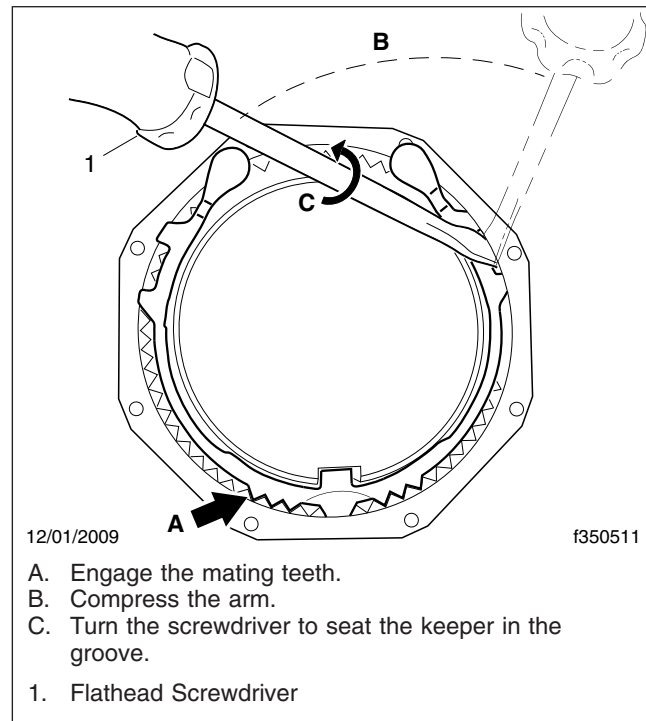

Fig. 4, Installing the Keeper
- 3.3 Use a flathead screwdriver to carefully compress and guide each arm past the lip and into the undercut groove of the nut as shown in **Fig. 4**. To secure the keeper it